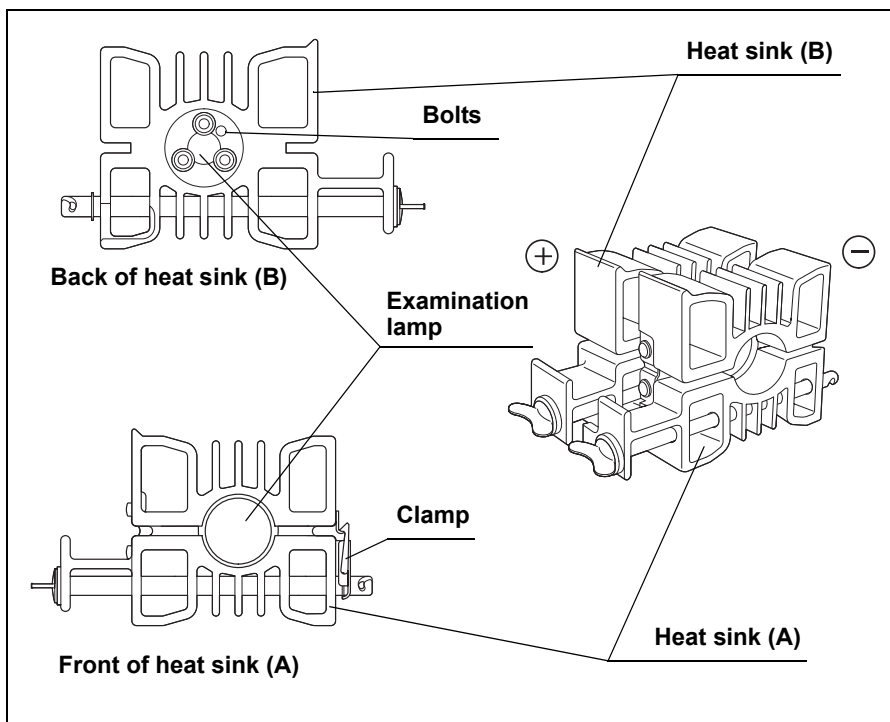

Figure 5.5
10. Using the hexagon wrench, loosen the three bolts on heat sink (B) (on the “+” side of the examination lamp or heat sink (B)) and remove heat sink (B) from the examination lamp (see Figure 5.5).